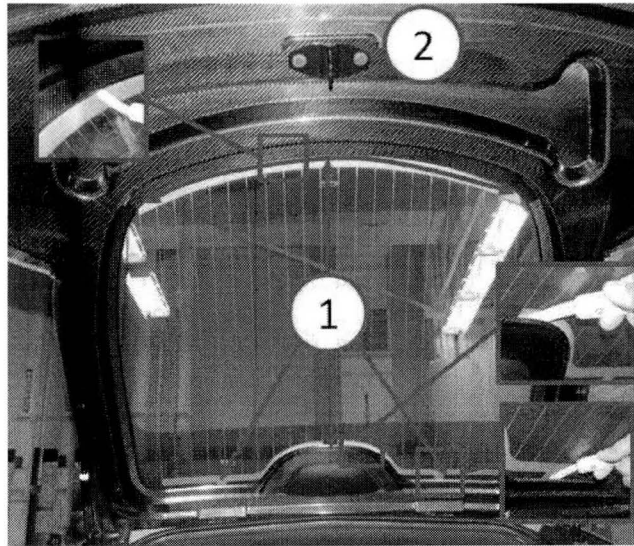

Fig. 1 Gap Inspection
1. Inspect the gap between the liftgate glass silver band and the liftgate around the top and bottom of the liftgate assembly as shown in (Fig. 1).